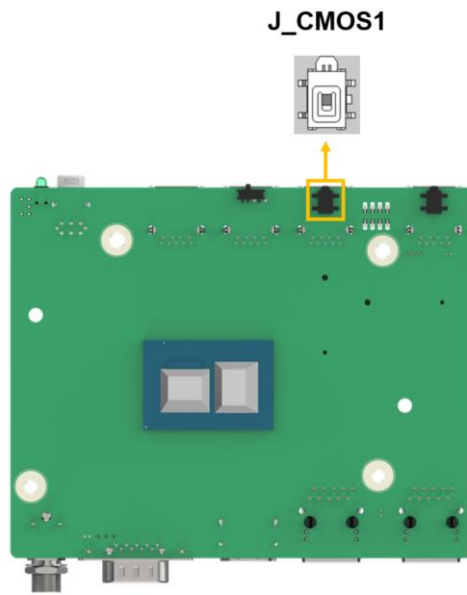

Figure 4-2: Clear CMOS Location
- CN Location:** See Figure 4-2